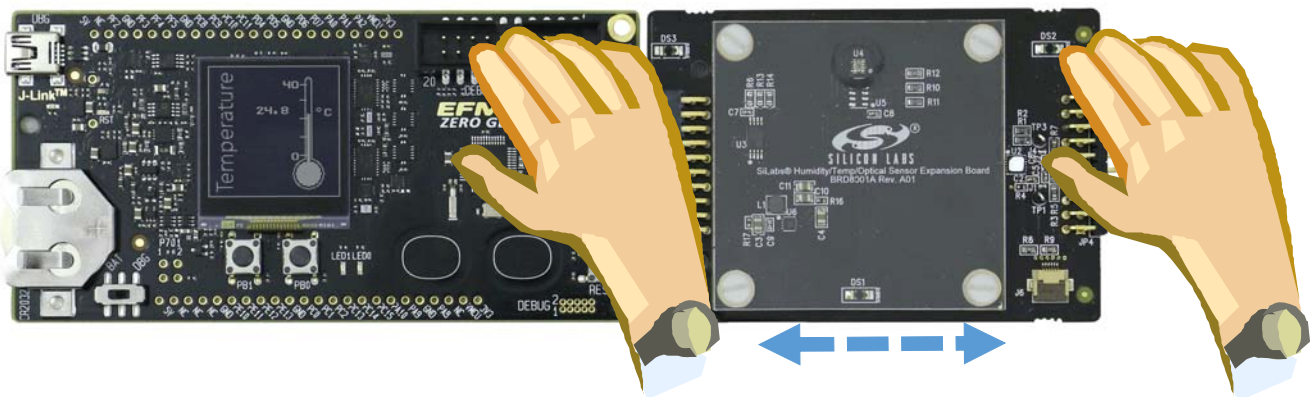

Figure 10. Left/Right Swipe Gesture
Swipe hand right or left to change display (Figure 10). Swipe up and down to change temperature display units.
- Updated Figure 10 on page 9.